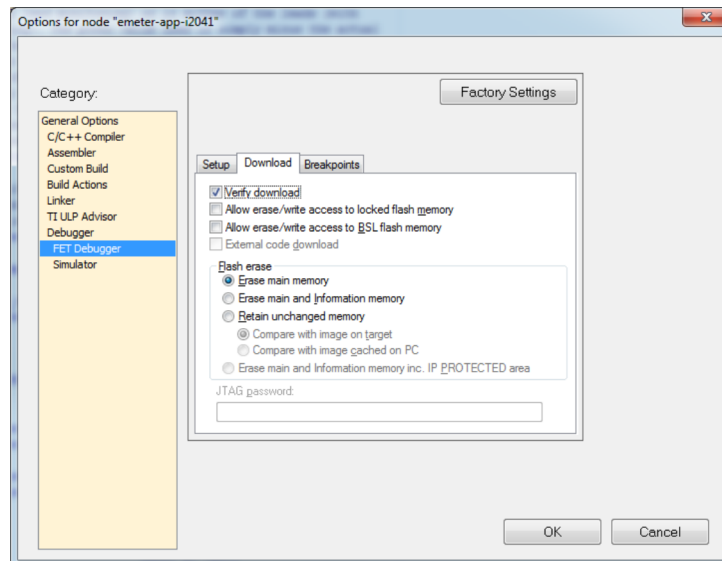

Figure 27. Download Options
7. Select the Download tab. Under Flash erase, do not choose Erase main memory and Information memory; this option erases both sets of data and cannot be recovered. Instead, choose Erase main memory as the download option to preserve these factory parameters: system clock calibration, ADC calibration, and internal reference calibration (Figure 27). However, metrology calibration stored in the main memory, such as VGAIN, IGAIN, PGAIN, and so on, are always erased after downloading. Select Erase main memory as the option for download to preserve the factory parameters.